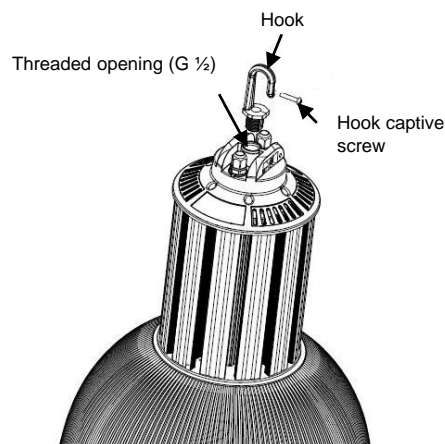

Figure 2
4. Attach hook (from hardware bag) into threaded opening in the top of the housing. (See Fig. 2)